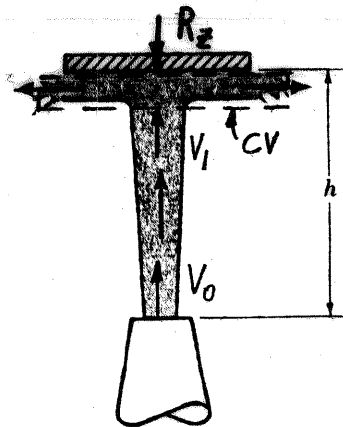

FIGURE P5.60
5.60 A vertical jet of water leaves a nozzle at a speed of 10 m/s and a diameter of 20 mm. It suspends a plate having a mass of 1.5 kg as indicated in Fig. P5.60. What is the vertical distance h ?